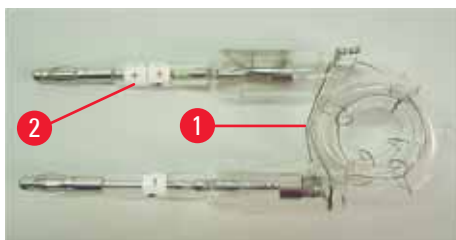
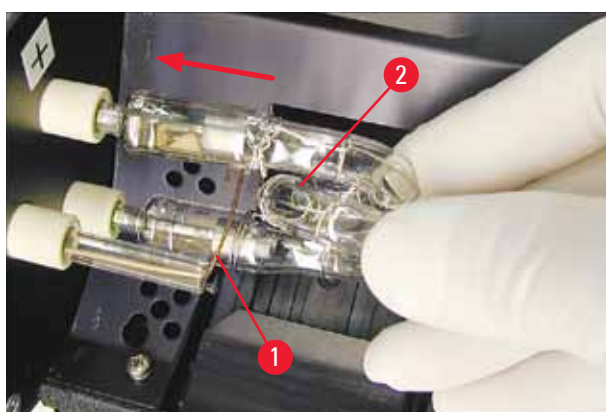

Fig. 18
Fig. 20
2. Insert the new flash bulb (→ "Fig. 18") into socket (→ "Fig. 17-3"); then push it carefully inwards as far as it will go (→ "Fig. 20") (the polarity marker (+) must not be visible any longer). If necessary, move flash bulb gently up and down.